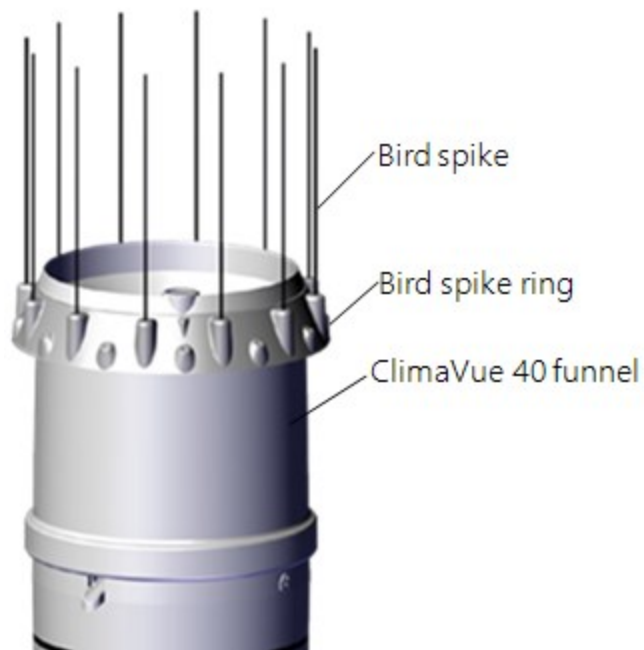

Figure 6-7. Bird-spike kit mounted properly
- Press finished bird deterrent onto the ClimaVue 40 funnel to at least the depth shown in Figure 6-7 (p. 14).